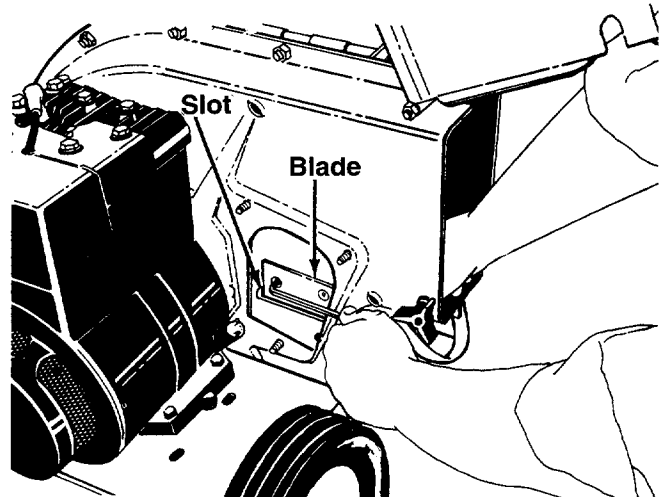

FIGURE 14.
4. Rotate the impeller assembly by hand until you locate one of the chipper blades in the chipper chute opening. Remove the blade, using a 3/16" allen wrench on the outside of the blade and 1/2" wrench on the impeller assembly (inside the housing). See figure 14.
Make certain blades are reassembled with the sharp edge facing the direction shown in figure 14 (sharp edge is assembled toward the slotted opening in the impeller assembly).